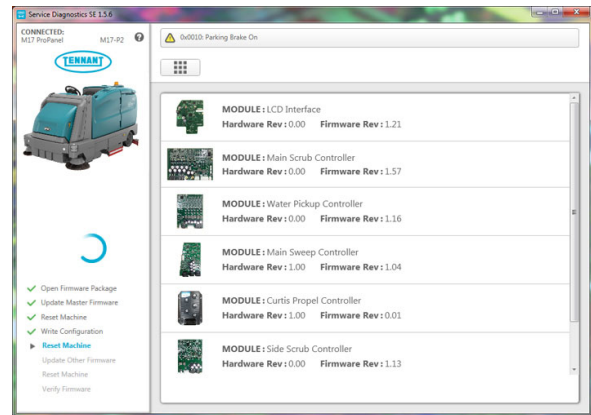

FIG. 22
- The application will begin configuring the new control board. Allow the configuration process to be completed. (Fig. 22)